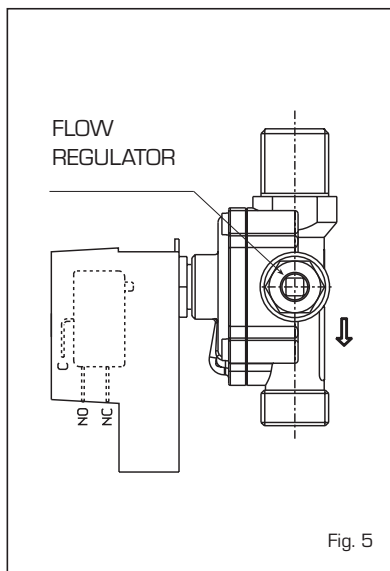

Fig. 5
2.2.2 D.H.W. production on DUETTO 25 BF TSE version (fig. 5)
To adjust water flow use the water pressure gauge flow regulator (fig. 5):